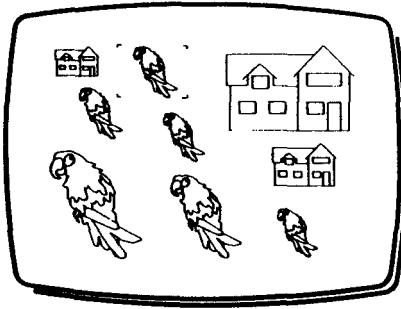

Fig 3
- 4 Press and release T to plant the duplicated library unit where required, as in Fig 3.